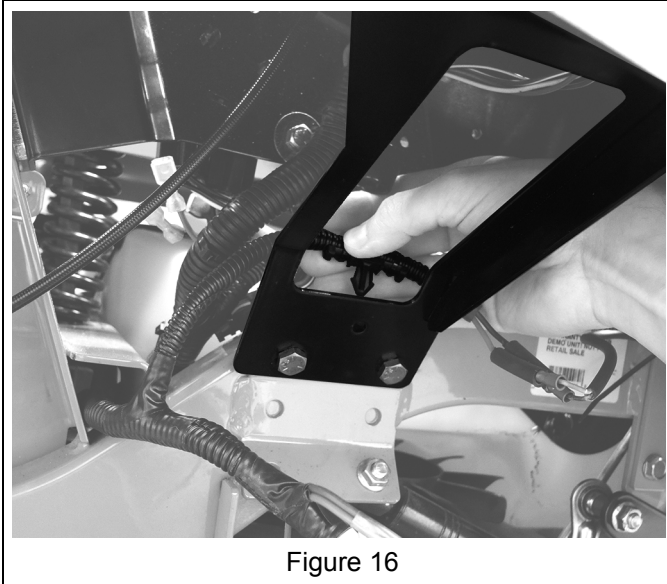

Figure 16
20. Insert tree harnesses into fender support bracket holes. See Figure 16.